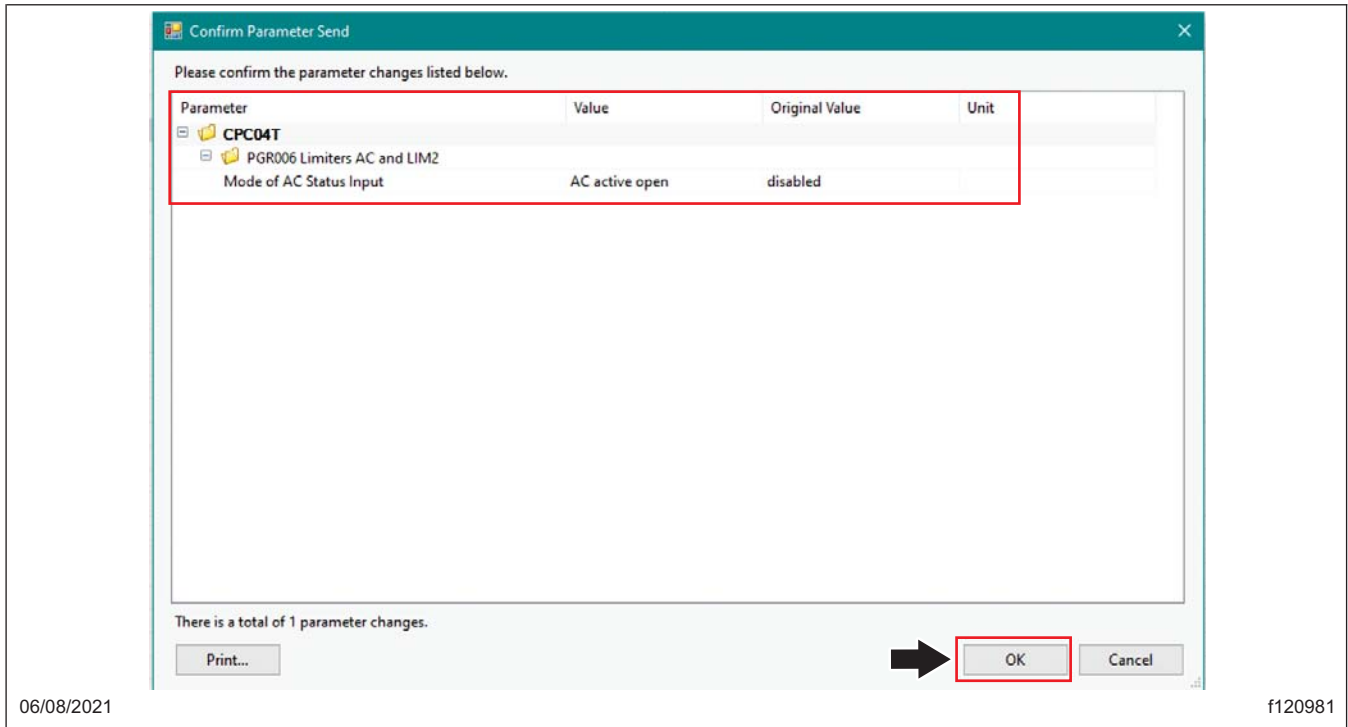

Fig. 4, 'Confirm Parameter Send' Window
- Click on 'Send'. 'Confirm Parameter Send' window opens, displaying all the parameters changed. Confirm the parameter value changed, then select 'OK' to write the parameter changes to the CPC04T ECU in the vehicle. See Fig. 4.